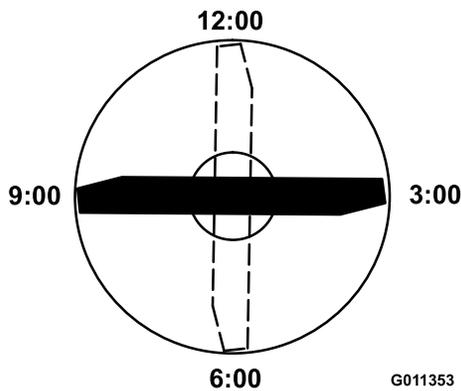

Figure 67
- Position the cutting edge of the marked end of the blade at the 12 o'clock position (straight ahead in the direction of mowing) and measure the height from the table to the cutting edge of the blade (Figure 67).
4. Rotate the marked end of the blade to the 3 o'clock and 9 o'clock positions and measure the heights (Figure 67).